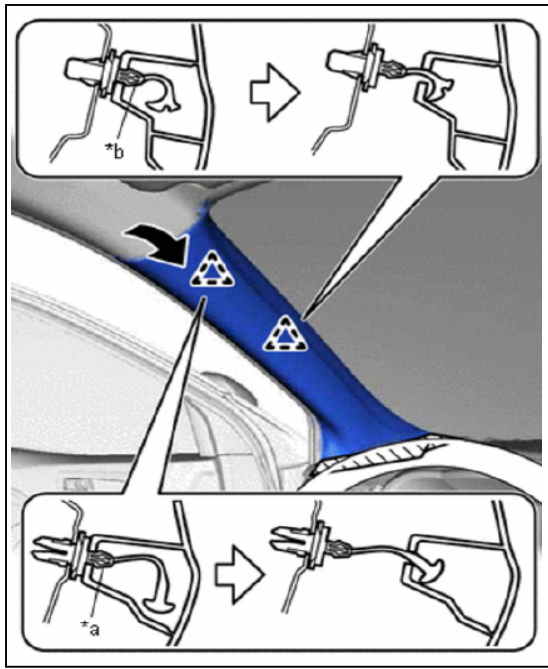

Figure 22
- a. Apply protective tape around the front pillar garnish LH as shown in Figure 22.